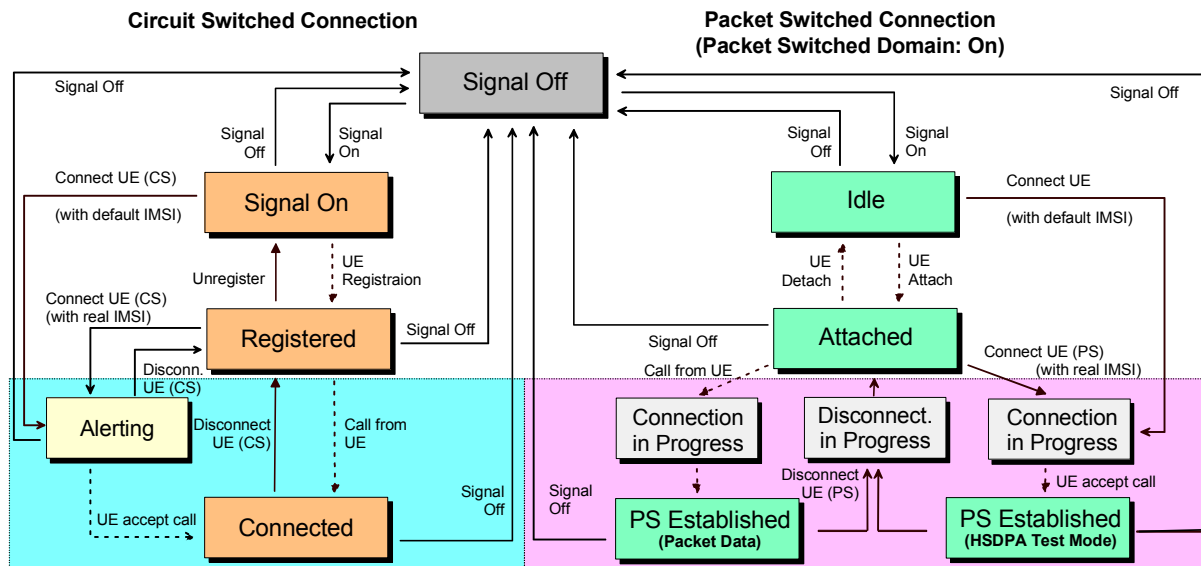

Fig. 4-93 Packet switched and circuit switched signalling states
A number of actions or control commands which can be initiated either by the CMU (e.g. *Signal On*, *Signal Off*) or by the UE (e.g. *MS Attach/Detach*) switch between the different signalling states. In Fig. 4-93 on p. 4.215, dashed lines represent processes initiated from the UE.
A packet switched connection is controlled by the *Signal On* and *Signal Off* and by the *Connect UE (PS)* and *Disconnect UE (PS)* softkeys in the *Connection* tab of the *Connection Control* menu. The remaining actions shown in Fig. 4-93 above can be initiated from the UE.
If a connection for data application tests is set up from the UE (see Fig. 4-93 on p. 4.215), the DCH type setting is not ignored. Instead *Packet Data* is displayed for information after the connection is established (no setting value).